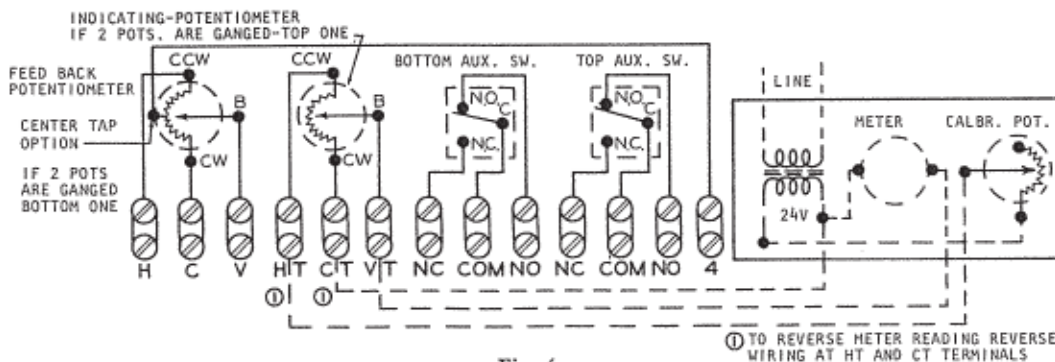

Fig. 4.
Fig. 4 indicates all optional variations which may be included on order. Potentiometers and/or auxiliary switches when specified are connected to the designated terminals. Terminal strip shown is the "AUXILIARY" strip.
REMOTE POTENTIOMETER (H6, H7 OPTIONS); Adjustment and Calibration — See Fig. 4 for Hookup
If only one cam has been adjusted the calibrating potentiometer may be turned until meter zeros at either unadjusted cam position. In the 'retract' position the meter will zero when wired according to wiring diagram. If unadjusted cam is 'retract' cam and you wish to read from zero to 100% as the unit is retracting, interchange meter wiring at terminals HT & VT. See Fig. 4.
- F. Apply power to unit to 'extend' terminals 4 and 3. As unit is extending adjust calibrating potentiometer so meter needle does not travel beyond 100%. When unit stops in 'extend' position, adjust calibrating potentiometer to indicate 100%. Run unit through a number of 'extend' and 'retract' cycles to make sure meter needle progresses slowly from zero at 'retract' to 100% at 'extend' position. If it is required to show zero at 'extend' position and 100% at 'retract' position, switch wires at HT and CT (See Wiring Diagram Fig. 4).